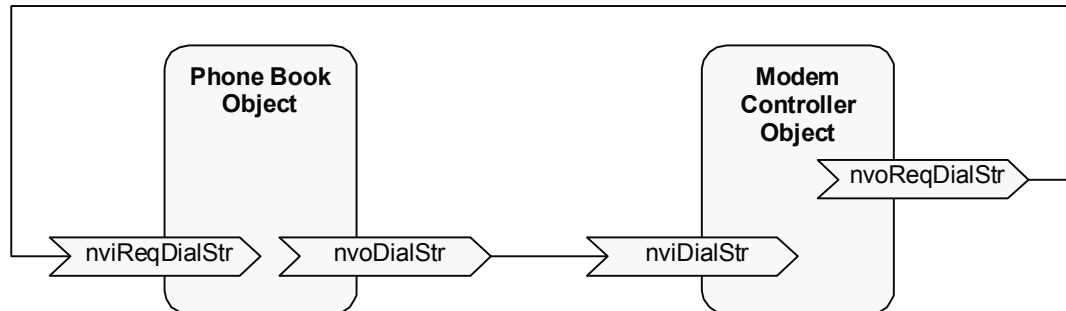

Figure 8 Perpetual Dial-up Mode using NV Bindings
- c) Make network variable bindings as shown in Figure 8.